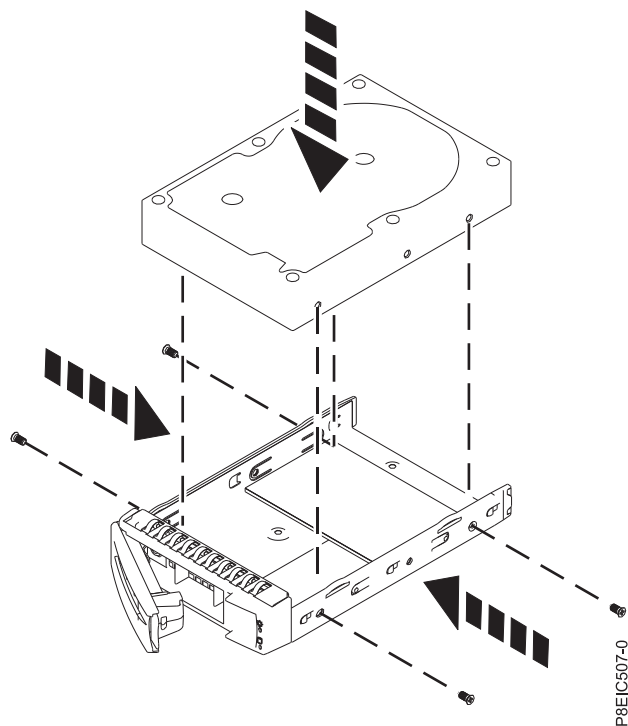

Figure 4. Mounting the 3.5 inch drive in the tray
- A 3.5 inch drive fills the tray, as shown in Figure 4. Fasten the drive to the sides of the tray with four screws (2 on each side).